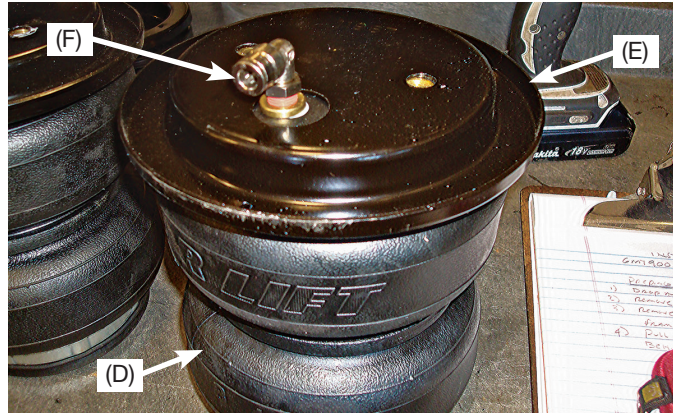

Fig. 12
1. Set a roll plate (E) over the top of the air spring (D) (fig. 12).